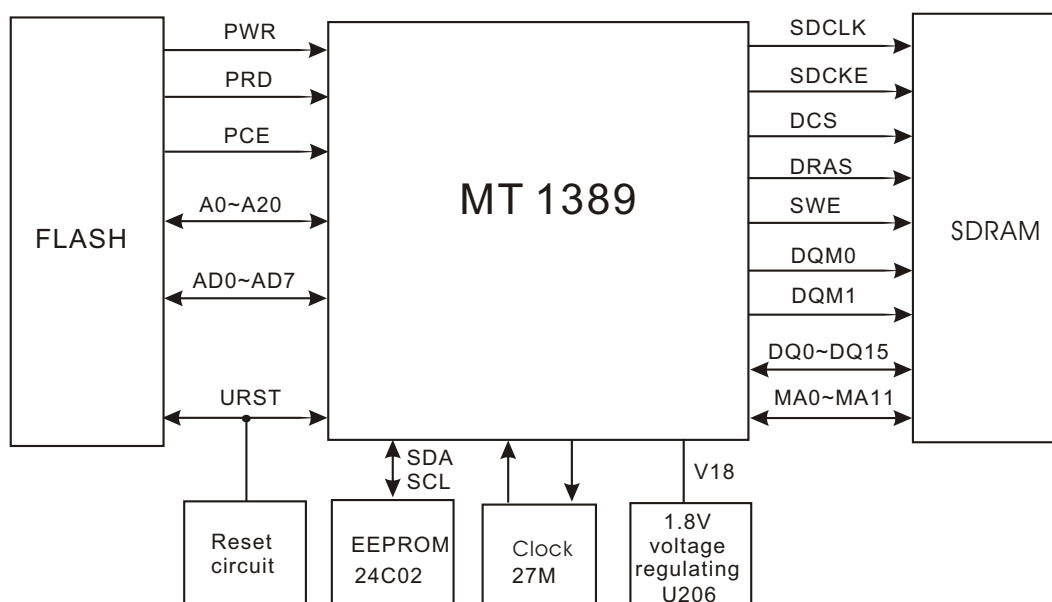

Figure 3.2.1.1 Decode circuit block diagram
1. Decode circuit block diagram is shown as in the following figure 3.2.1.1: